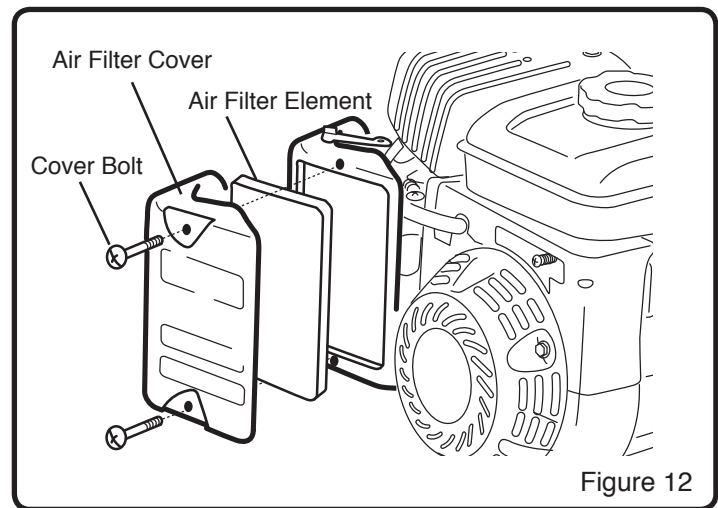

Figure 12
**NOTE:** Refer to Figure 12 when following the steps below: